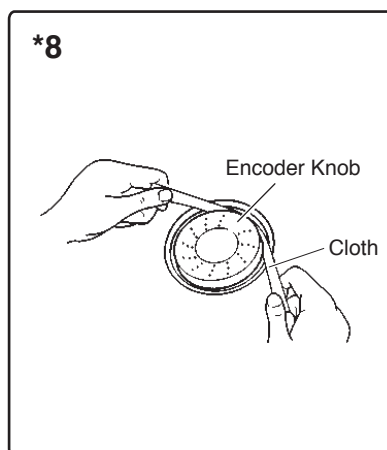

Fig.2-3
- *8 Encoder Knob (See Fig.2-3.)